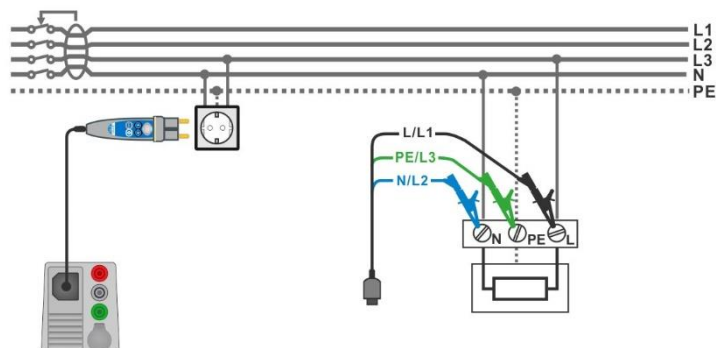

Figure 7.33: Connecting the Plug commander and the 3-wire test lead
- › Connect L, N and PE of 3-wire test lead or Plug commander to the object under test, see **Figure 7.33**.
- › Connect 3-wire test lead or Plug commander to the object under test, see **Figure 7.33**.
<ul style="list-style-type: none"> <li>Enter the RCD Auto function.</li> <li>Set test parameters / limits.</li> <li>Connect test cable to the instrument.</li> <li>Connect 3-wire test lead or Plug commander to the object under test, see Figure 7.33</li> <li>Start the measurement.</li> </ul>	Start of test